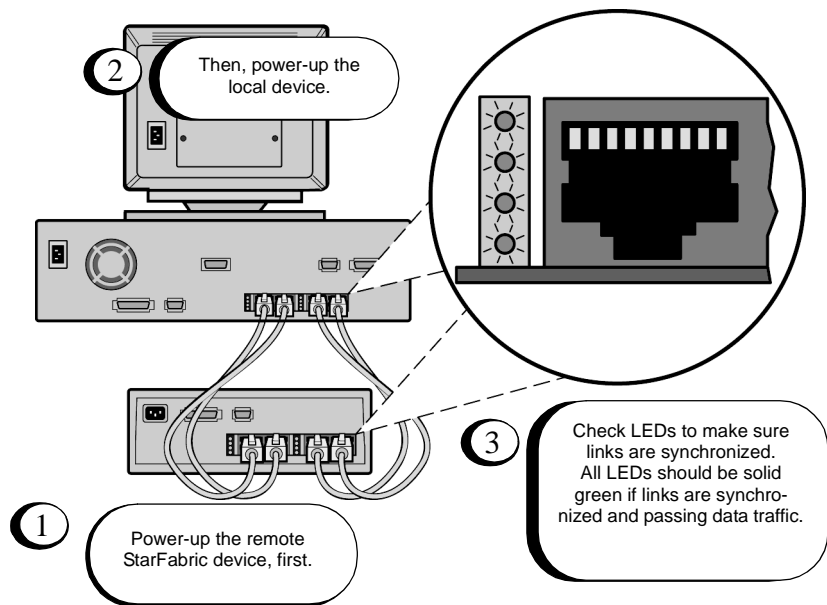

FIGURE 27. Powering Up the Devices
1. Power-up the remote device first, as shown in Figure 27. The PCI-SB card in the local device must synchronize with the remote interface card at power-up, so power-up the remote device before powering up the local device.